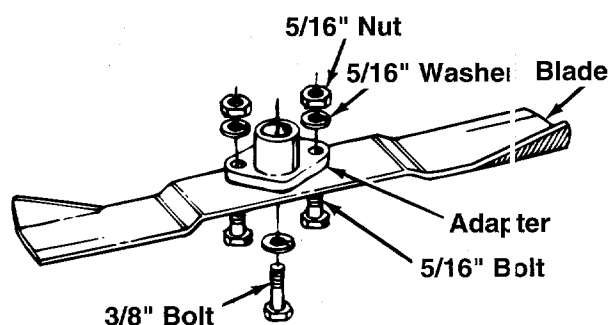

FIGURE 24.
1. Remove the large bolt and lock washer which holds the blade and adapter to the blade spindle. See figure 24.
3. If the blade or blade adapter needs replacing, remove the two small bolts, lock washers and nuts which hold the blade to the adapter. See figure 24.